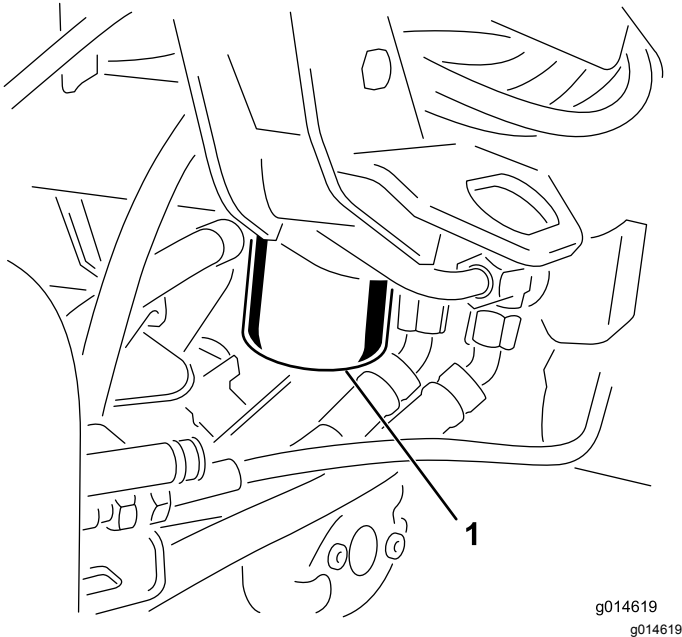

Figure 39
1. Clean the area around the filter mounting area (Figure 39). Place a drain pan under the filter and remove the filter.